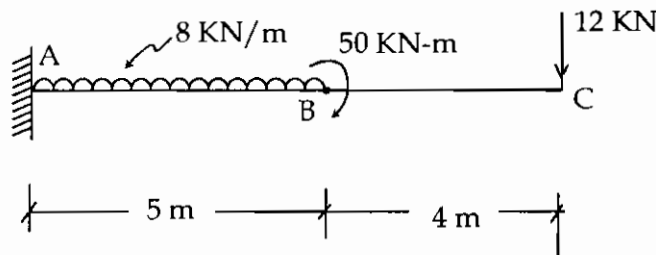

Figure 5 [Q. No. 2 (C)]
- (C) Determine the equation of the elastic curve for the cantilever beam shown in Figure 5. Also find the deflection at B and C. Assume EI constant. 12